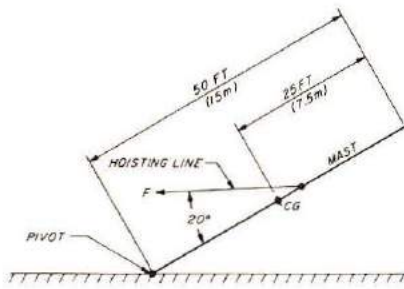

Fig. 1. The mast, hoisting line, and center-of-gravity arrangement used in example 1.
Suppose you want to raise a mast which is 15 meters (50 feet) long and weighs 90 kg (200 lbs). For this example I'll assume that the weight is constant through the entire length, so the center of gravity will be 7.5 meters (25 feet) from the base. Surrounding structures or trees are in the way which means that an angle of only 20° can be attained between the mast and the line, see Fig. 1. The line is attached 9 meters (30 feet) from the base of the mast. The static tension (T) on the rope in kilograms (pounds) can be calculated as follows:
These figures are the dead weight that is being supported by the rope in Fig. 1.* Any force applied must be enough